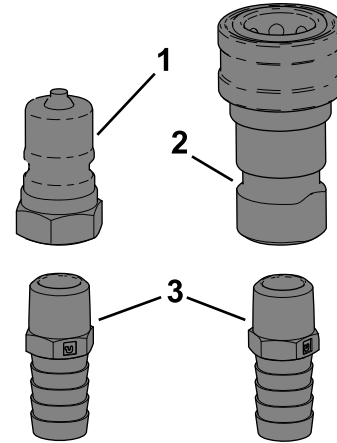

Figure 11
2. Thread the straight fitting to the coupler (Figure 11).